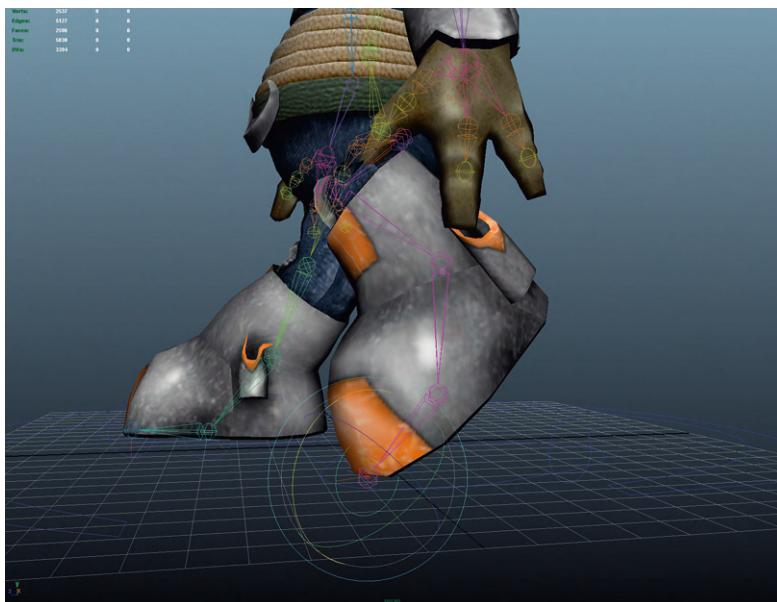

FIG 9.34 Rotating up to the toe on right footfall.
Step 19: Rotate the foot up onto the toe at the right footfall pose. Move the Current Time Marker to frame 12 (right footfall pose) and rotate the L_Toe_Cntrl to rotate the foot up (I used Rotate X = 40). Hit s. Set both L_Heel_Cntrl and L_Ball_Cntrl to be rotated to 0. Be sure to hit s to set a key for each of those (Fig. 9.34).